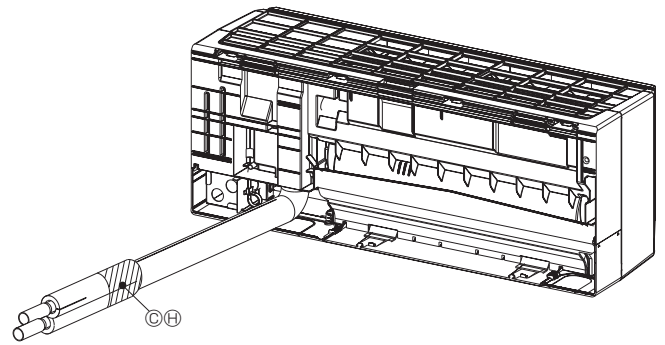

Fig. 3-12
- (4) Attach insulation materials Ⓗ to the cut parts Ⓒ of the pipe covers to insulate them. (Fig. 3-12, 3-13)